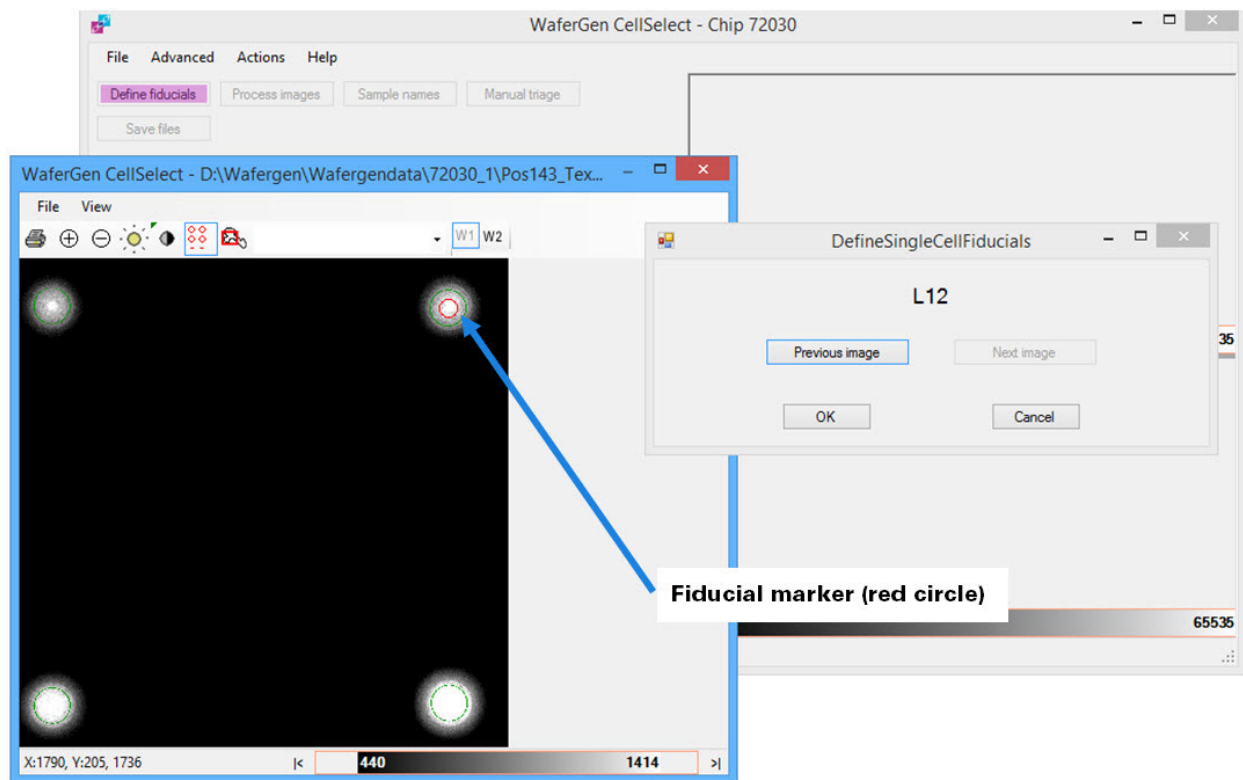

Figure 26. Inspecting and adjusting fiducials.
- a. Click and drag the *DefineSingleCellFiducials* prompt window to the side to view the fiducials image (see Figure 26, below).
- b. If the green circles are not centered properly, click on the nanowell centers with the mouse pointer (changes to red circle; see Figure 26, above).